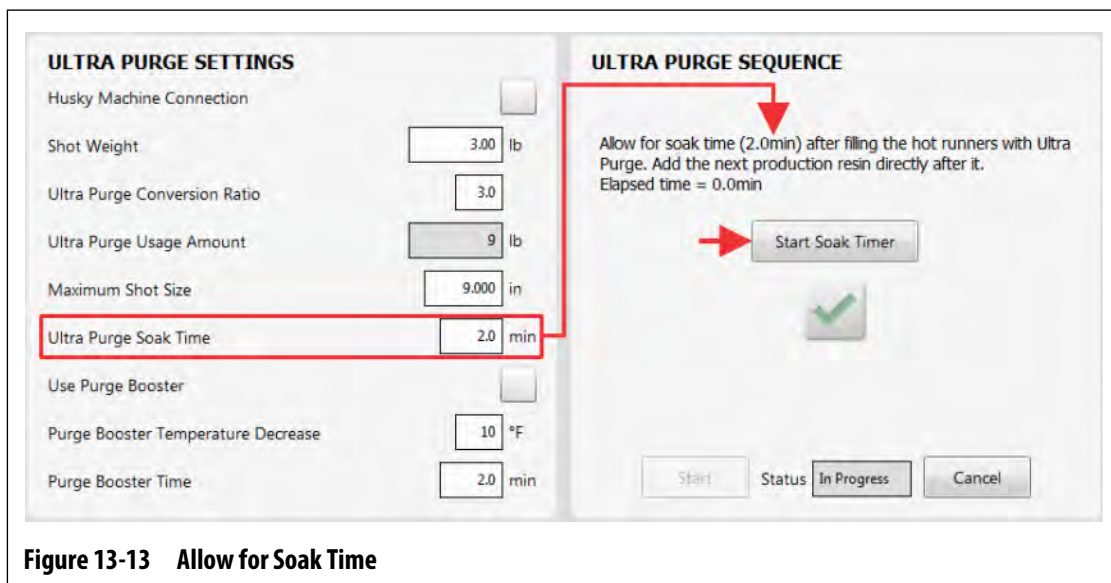

Figure 13-13 Allow for Soak Time
18. After the hot runners are filled with Ultra Purge, touch the **Start Soak Timer** button let the soak timer complete (Figure 13-13).